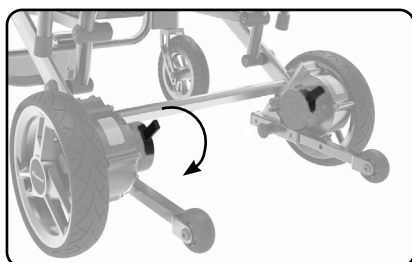

Fig. 11.1
- To engage the EM brakes, pull the levers away from the back of the chair (Fig. 11.1).